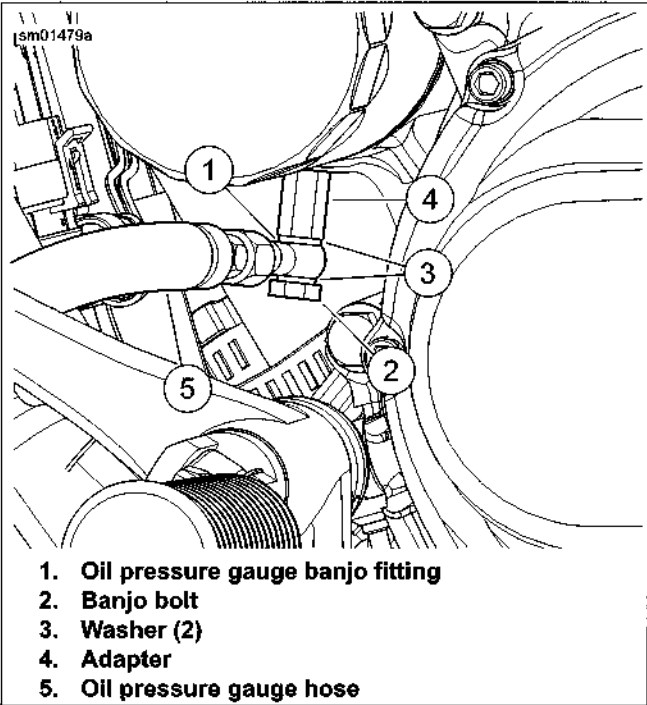

Figure 3-4. Oil Pressure Test Connections
1. See Figure 3-4. Assemble banjo bolt (2), washer (3), OIL PRESSURE GAUGE banjo fitting (1) and second washer onto adapter and tighten snugly.